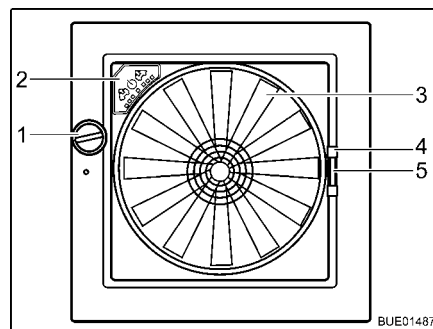

Fig. 115 Omni-Vent skylight
- Turn the knob (Fig. 115,1) until the desired opening angle is reached.
- Turn the knob (Fig. 115,1) until the skylight is fully closed.
- Using the handle (Fig. 115,4) pull the insect screen across to the other side of the frame.
- Press together the handle (Fig. 115,5) of the shade.
- Fan** If the skylight is open, the interior can be vented and aerated with the 6-speed fan (Fig. 115,3). The fan is operated via the operating panel (Fig. 115,2).